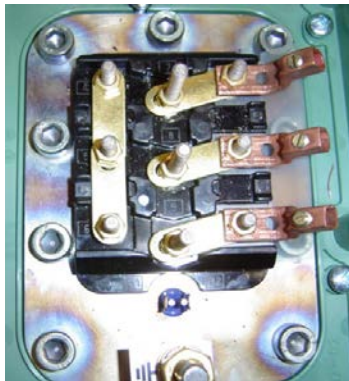

Figure 3.13b
- 13b. Figure 3.13b shows the terminal arrangement for a 208-230/3/60 voltage (direct online). Look inside the terminal box cover for more detail and other voltages.